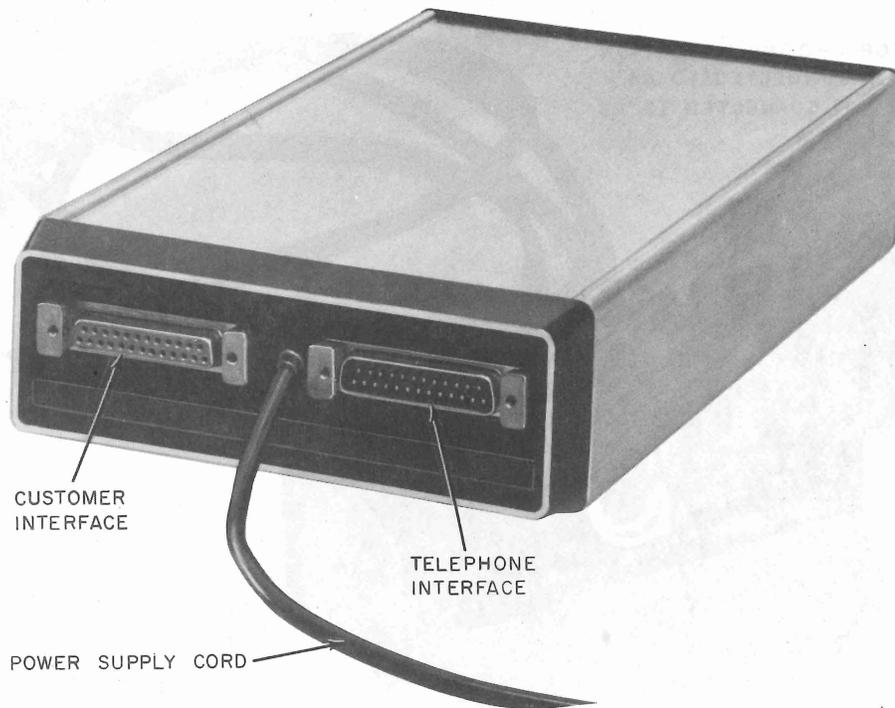

Fig. 4—Data Set 202S—Rear View
**3.07** All interconnections to the data set are via two interface connectors at the rear (Fig. 4). The customer interface connector is the standard 25-pin KS-19087-L6 that is designed to mate with the customer-supplied Cinch or Cannon DB19604-432 plug equipped with a DB51226-1 hood, or its